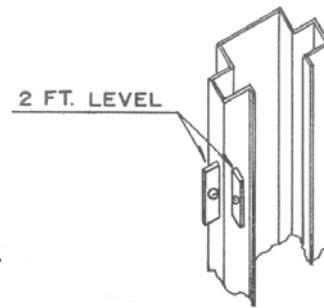
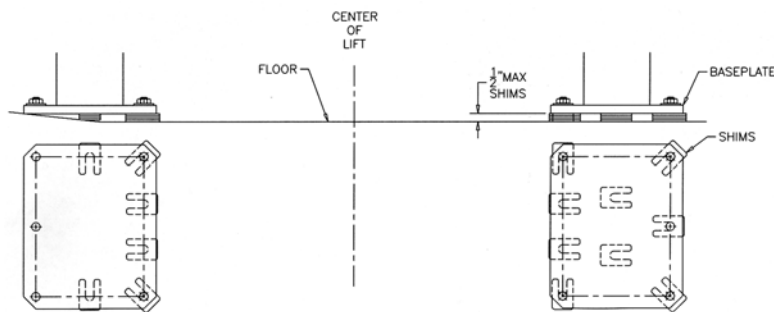

Figure 13
Figure 14 - Shims
2. Using a 2ft. level on the sides of the high column, ensure that the column is level in the vertical position (**Figure 13**). Use shims under the column baseplate to hold the column level. Ensure that the base plate is completely supported by shims where it does not contact the floor (**Figure 14**).
5. Reconfirm that the column is level front to rear and side to side (**Figure 13**). Add or remove shims as required.
1. Using a 4ft. level on top of the crossmember (**Figure 12**) and a 2ft. level on the low side column (**Figure 13**), shim underneath the baseplate until the crossmember and column are level. Ensure that the baseplate is completely supported by shims where it does not contact the floor (**Figure 14**).
4. Reconfirm that the column is level front to rear and side to side (**Figure 13**). Add or remove shims as required.